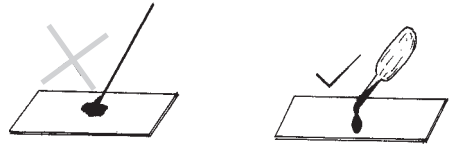

Fig. 9.9
- Use a dropper and not a glass rod to put immersion oil on the slides without touching it (Fig. 9.9).